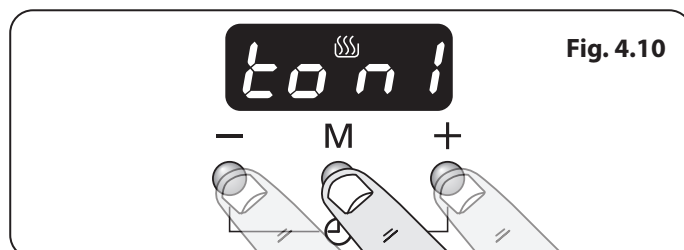

Fig. 4.10
- Press the the [+] and [-] buttons simultaneously, then the mode [M] button. The display will show 'ton1,2 or 3' (**Fig. 4.10**).